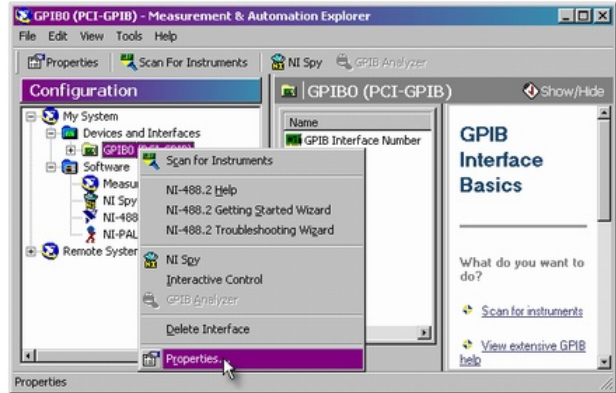

Figure 12. Measurement & Automation Explorer dialog with popup menu for GPIB0 open
- a. In the **Configuration** panel, expand the **Devices and Interfaces** group by clicking on the plus (+) sign next to it, as shown in Figure 12. Systems with only one GPIB card will only show GPIB0 (PCI-GPIB).
- b. Place your cursor on the icon representing your PCI-GPIB card and right-click on it. This will open the popup menu shown in Figure 12.